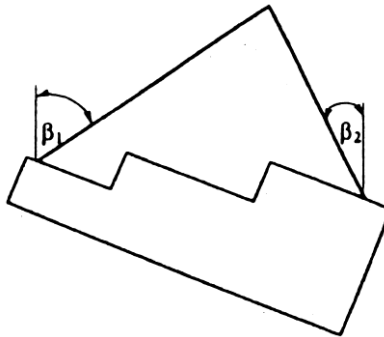

Figure 1: Example of unequal inclination angles β
- If different angles of inclination occur with 2-legged lifting assemblies (Figure 1), only the load-bearing capacity of a single leg at 90° may be taken as a basis.